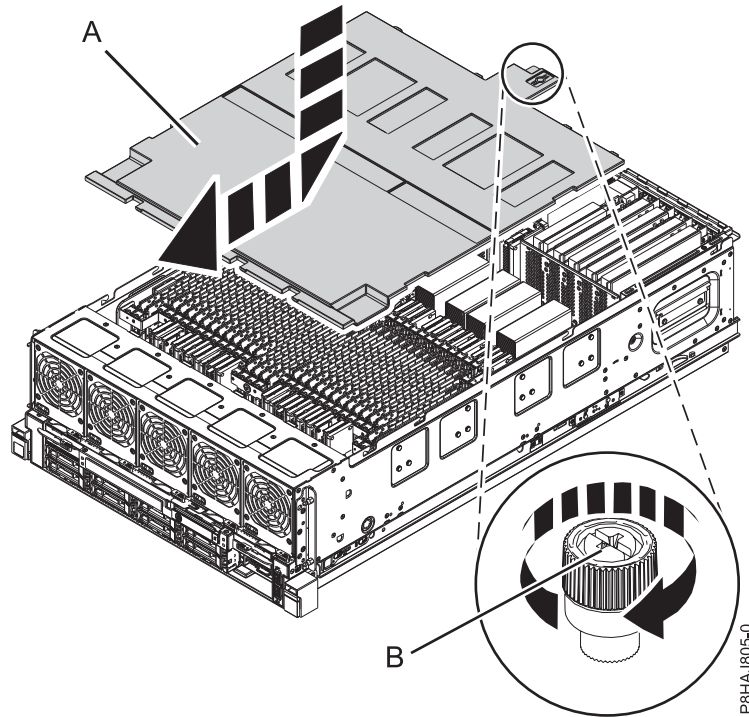

Figure 32. Replacing the safety cover
2. Push the safety cover (A) toward the chassis.
3. Tighten the thumbscrew (B) by turning it in the direction shown in Figure 32 on page 45 to fix the safety cover to the chassis.